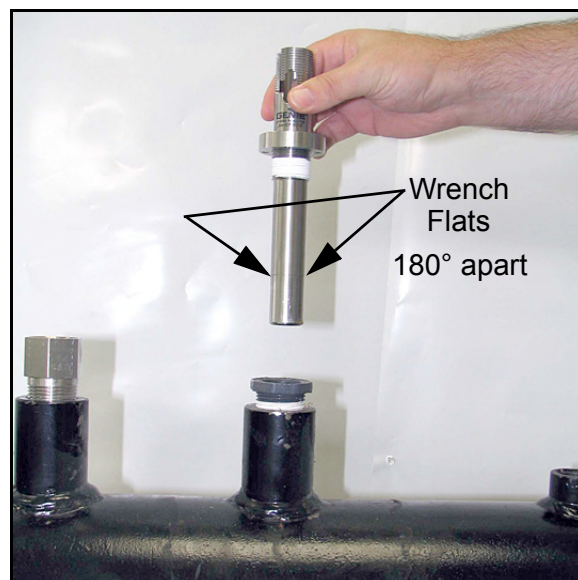

Figure 13: Tightening the Housing
3. Using a wrench on the wrench flats, turn the housing until it is secure and sealed (see *Figure 13* below). This will require between three and five turns. **DO NOT OVERTIGHTEN!** The housing may be damaged if it is over-tightened, causing the housing to deform.